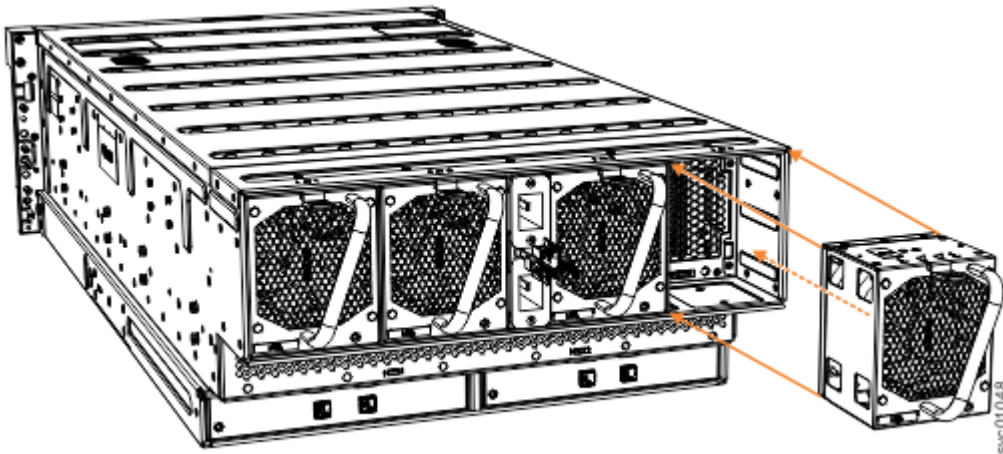

Figure 145. Remove and replace a fan module
3. Use the handle to pull the fan module out of the expansion enclosure chassis, as shown in Figure 145 on page 178.
6. Carefully insert the fan module into the chassis until it clicks in place, as shown in Figure 145 on page 178.